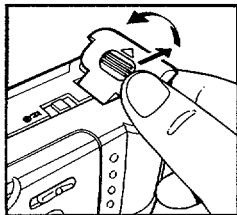

Fig.2 Abb.2 圖.2
1. Open the Battery Chamber Cover in the direction of the arrow by pulling it out. **(Fig. 2)**